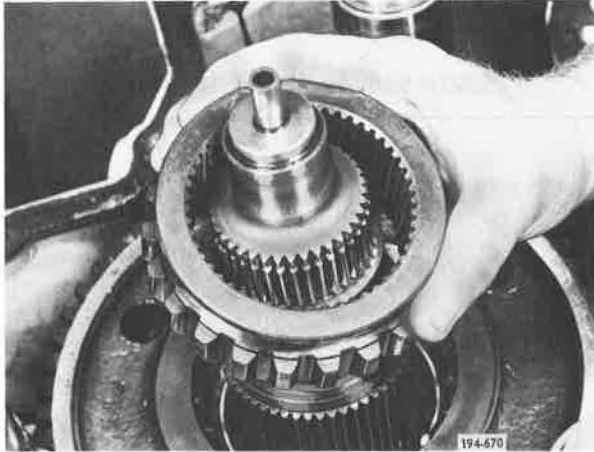

Figure 5-701. Removing Sliding Clutch
6. Remove first speed gear sliding clutch. See **Figure 5-701**.